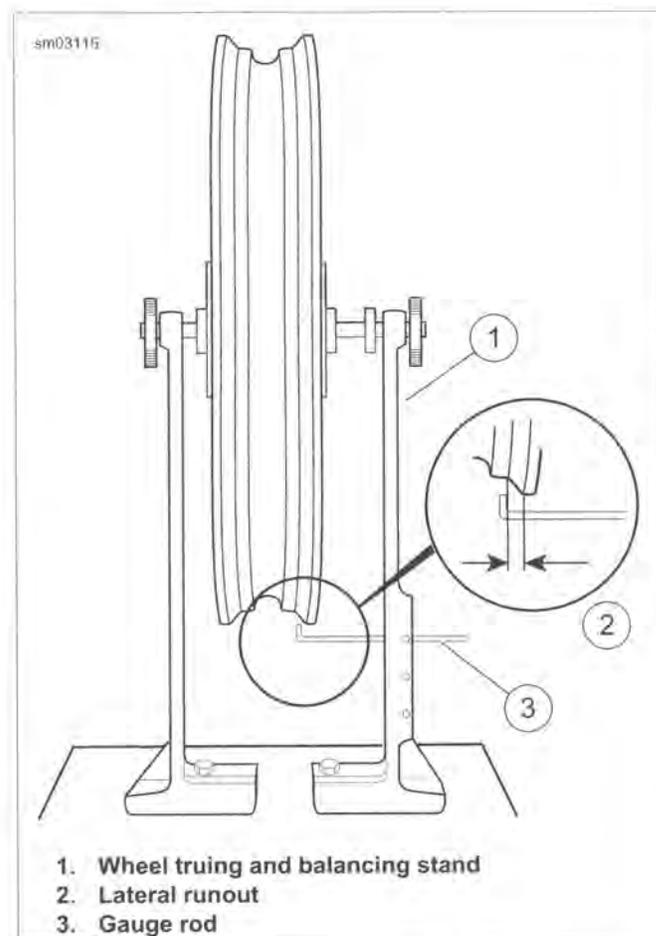

Figure 2-30. Checking Lateral Runout
1. See Figure 2-30. With the wheel mounted in WHEEL TRUING STAND (Part No. HD-99500-80), adjust the gauge rod (3) near the rim bead flange.
2. Rotate the rim slowly and check lateral runout (2). If runout exceeds 0.030 in (0.76 mm), adjust spokes as follows.